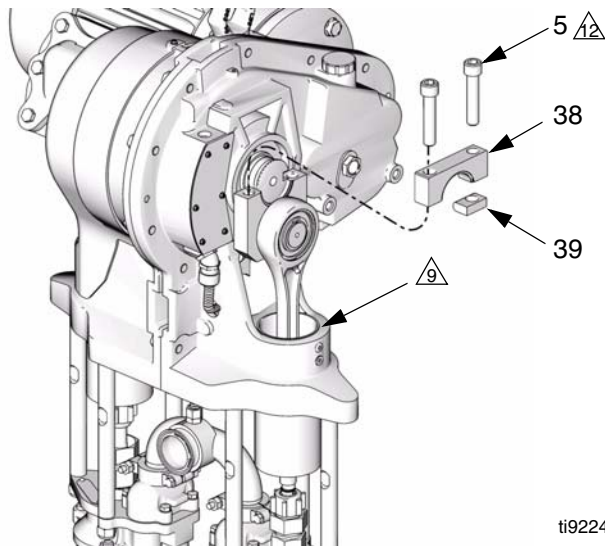

FIG. 2. Remove Crank Arm Cap
6. Place a 3/4 in. wrench on the slider piston (9) flats (just above the coupling nut), to keep the slider piston/connecting rod from turning when you are loosening the coupling nut (14). Orient the wrench so it is braced against one of the tie rods (3). Applying excessive force to the slider piston/connecting rod can shorten the life of the lower pin bearing.
7. Using a 1-5/8 in. open-end wrench, unscrew the coupling nut (14) from the slider piston (9) and let it slide down onto the pump piston rod. Be careful not to lose the collars (13).
8. See FIG. 2. Using a 1/2 in. hex driver, unscrew the two cap screws (5). Remove the crank arm cap (38) and key (39). If necessary, use a plastic hammer to break these parts loose.